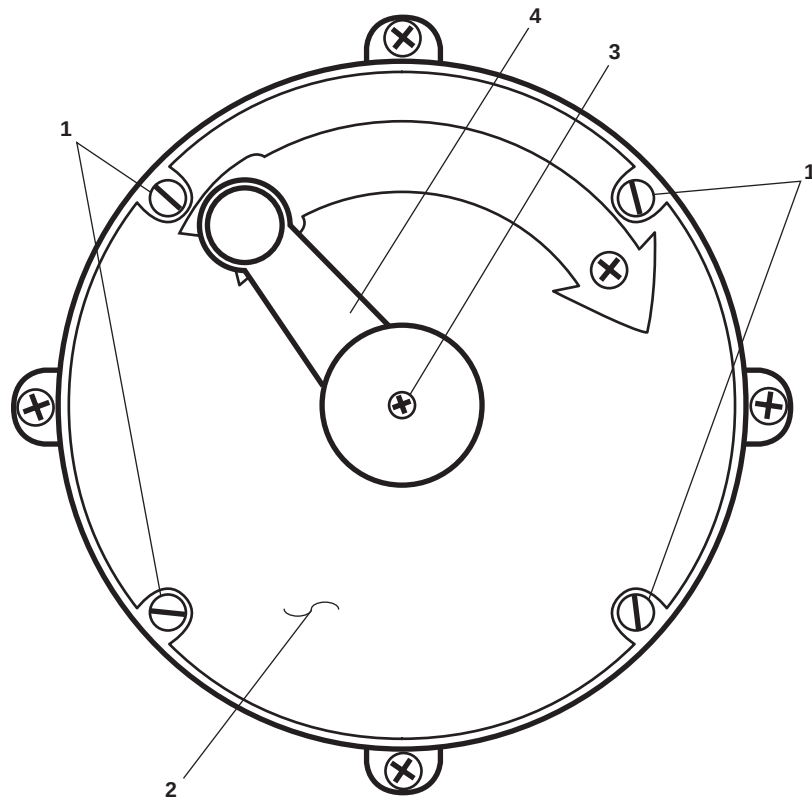

Figure 2. Contactor Switch Assembly
1. Remove the four screws (figure 2, item 1) that secure the contactor switch cover (figure 2, item 2).
2. Remove the contactor switch cover (figure 2, item 2) from the actuator assembly. Turn it over to reveal the internal components.
5. Remove the retaining screw (figure 2, item 3) that secures the actuator (figure 2, item 4) to the switch pinion.
6. Remove the actuator (figure 2, item 4).
4. Install the contactor switch cover (figure 2, item 2), securing it with the four screws (figure 2, item 1).
5. Install the actuator (figure 2, item 4) on the switch pinion, securing it with the retaining screw (figure 2, item 3).